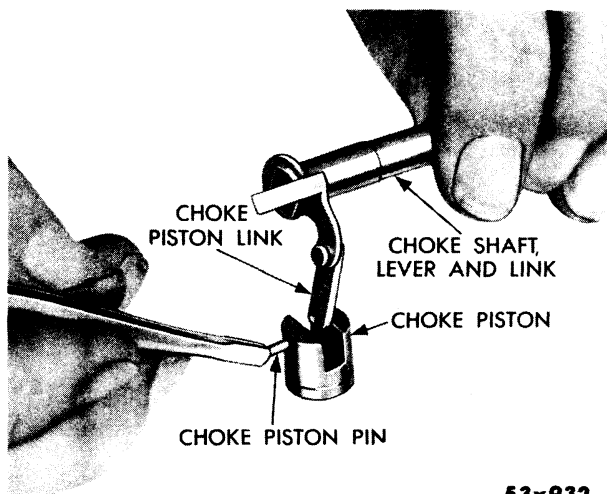

Fig. 20—Removing or Installing Choke Piston Pin
- (7) Using a suitable tool, withdraw the choke piston pin, as shown in Figure 20.